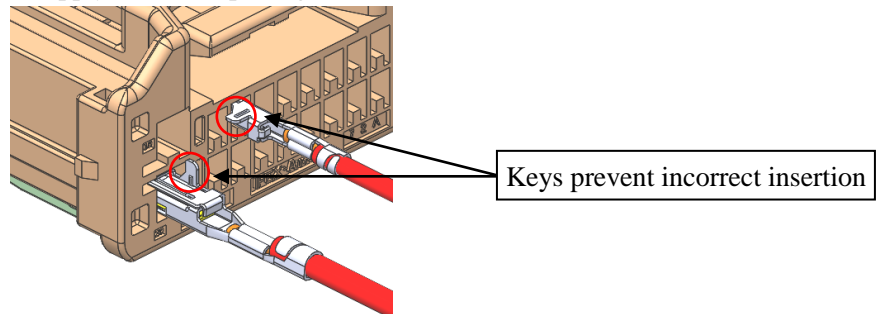

Fig24.FEMALE HOUSING Incorrect terminal insertion
- ① Terminals must be inserted in the orientation instructed. Forcibly inserting terminals in any other orientation may result in damage or deformation. Furthermore, if the terminals are inserted with incorrect orientation, terminal key prevents insertion into coreholes. (see Fig.24)
- ② Once the terminal is inserted, do not apply excessive pulling force to the wire.